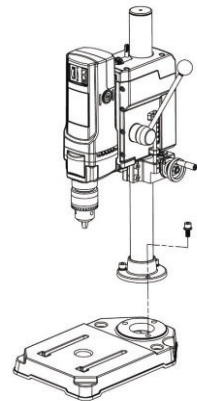

Fig. 3
1. Align the steel tube column assembly (81) on the main unit with the mounting screw holes on the base (79).
2. Tighten the screws (80) using the attached 6mm hex key. (Refer to Fig. 3)